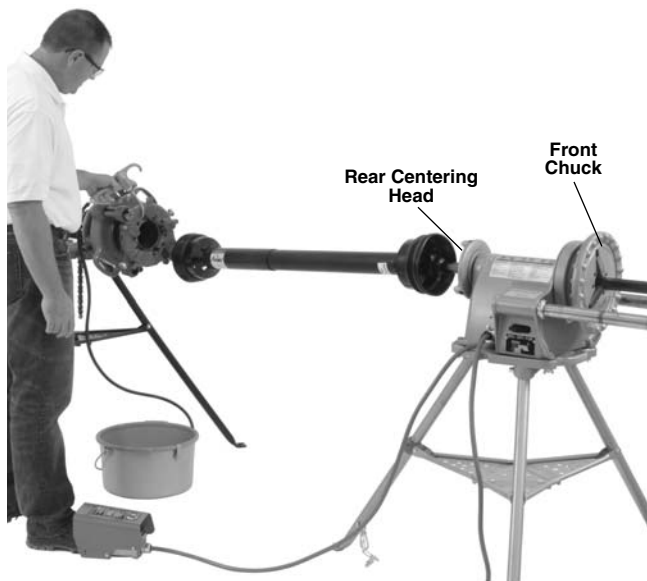

Figure 11 – Threading With Universal Driveshaft
10. Assume a proper operating position to help maintain control of the machine and process (*see Figure 11*).